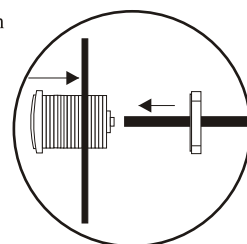

Figure 1
Prior to installation (check contents if the kit) and familiarize Fig.1 and Fig.2
- b)Bring up conversion adapter against "O"ring tightly.(Shown Fig.1)
1. Make a hole (size 1-3/8") for the On/Off switch as shown (see fig 1). Pre-drill required.